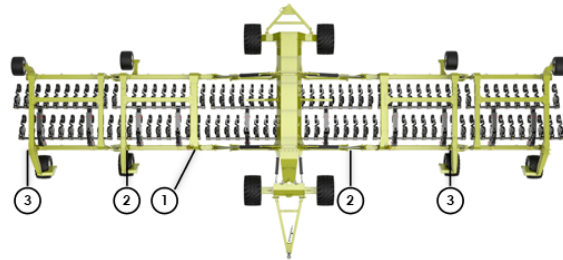

Figure 2.8 Five-Section Double Disc Drill
The five-section double disc drill (Figure 2.8) has a center frame (1), two folding wings (2), and a folding extension (3) on each folding wing. The five-section drill is available in three sizes: 18.28 m (60 ft), 20.12 m (66 ft) and 22.56 m (74 ft) widths.